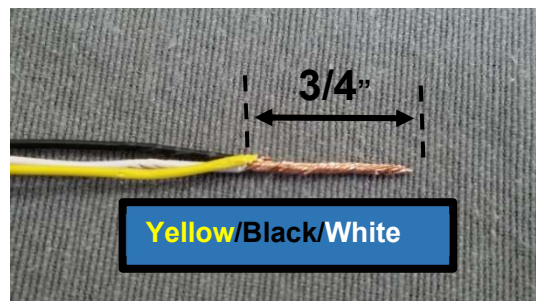

FIGURE 114
- ❑ **STEP 10.14** Trim about 3/4" of insulation off each wire end shown in **FIG. 114**.
- ❑ **STEP 10.15** Twist 3 GND wires together (**YELLOW/BLACK/WHITE**) as in **FIG. 114**.